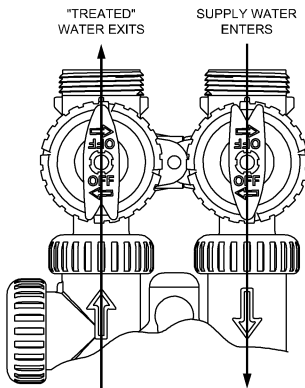

Figure 2
7. Once again, push REGEN button and hold down for 3 seconds. Keep pushing REGEN button until "Backwash" appears. Slowly place the by-pass valve into the "Diagnostic Mode" 1/2 way. Allow water to slowly fill the mineral tank. When a solid stream of water starts coming out of the drain line, open the by-pass inlet valve all the way and allow to run out the drain until water clears. Then slowly place the by-pass into the "normal operation" mode by opening the outlet side of by-pass valve, figure 2.